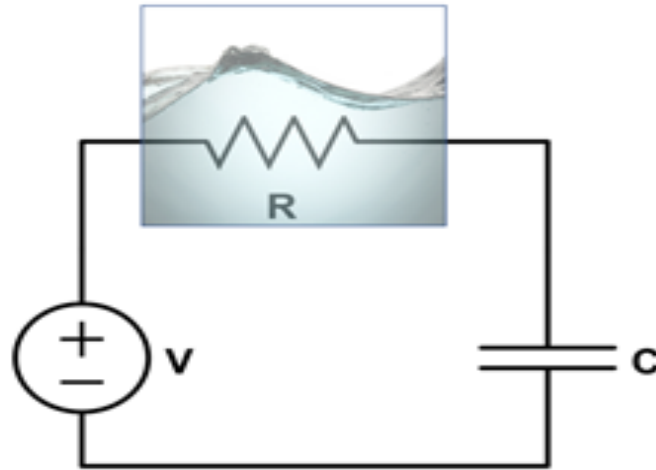

Figure 1: Thermodynamics Problem
– 1.1: *Your Matlab/Octave program should replicate Figs. 1, 3 and 5 from the analysis of thermodynamic modeling method, as described below.*